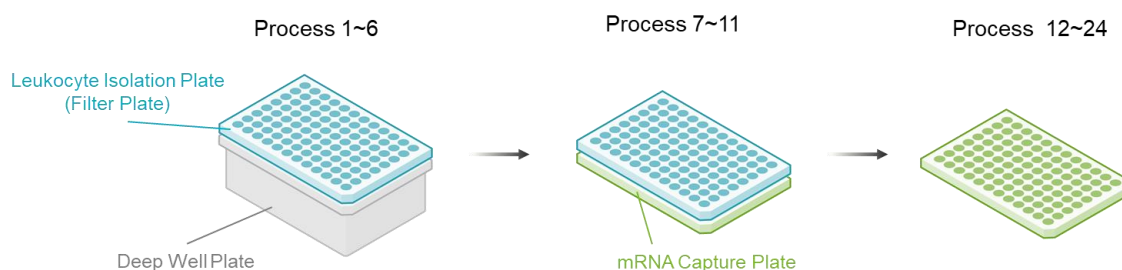

Figure 2. Placement of each plate
1. Place the Leukocyte Isolation Plate (Filter plate) on the top of the Deep Well Plate (see Figure 2).
7. Remove the Deep well Plate and place the mRNA Capture Plate under the Filter Plate (see Figure 2).